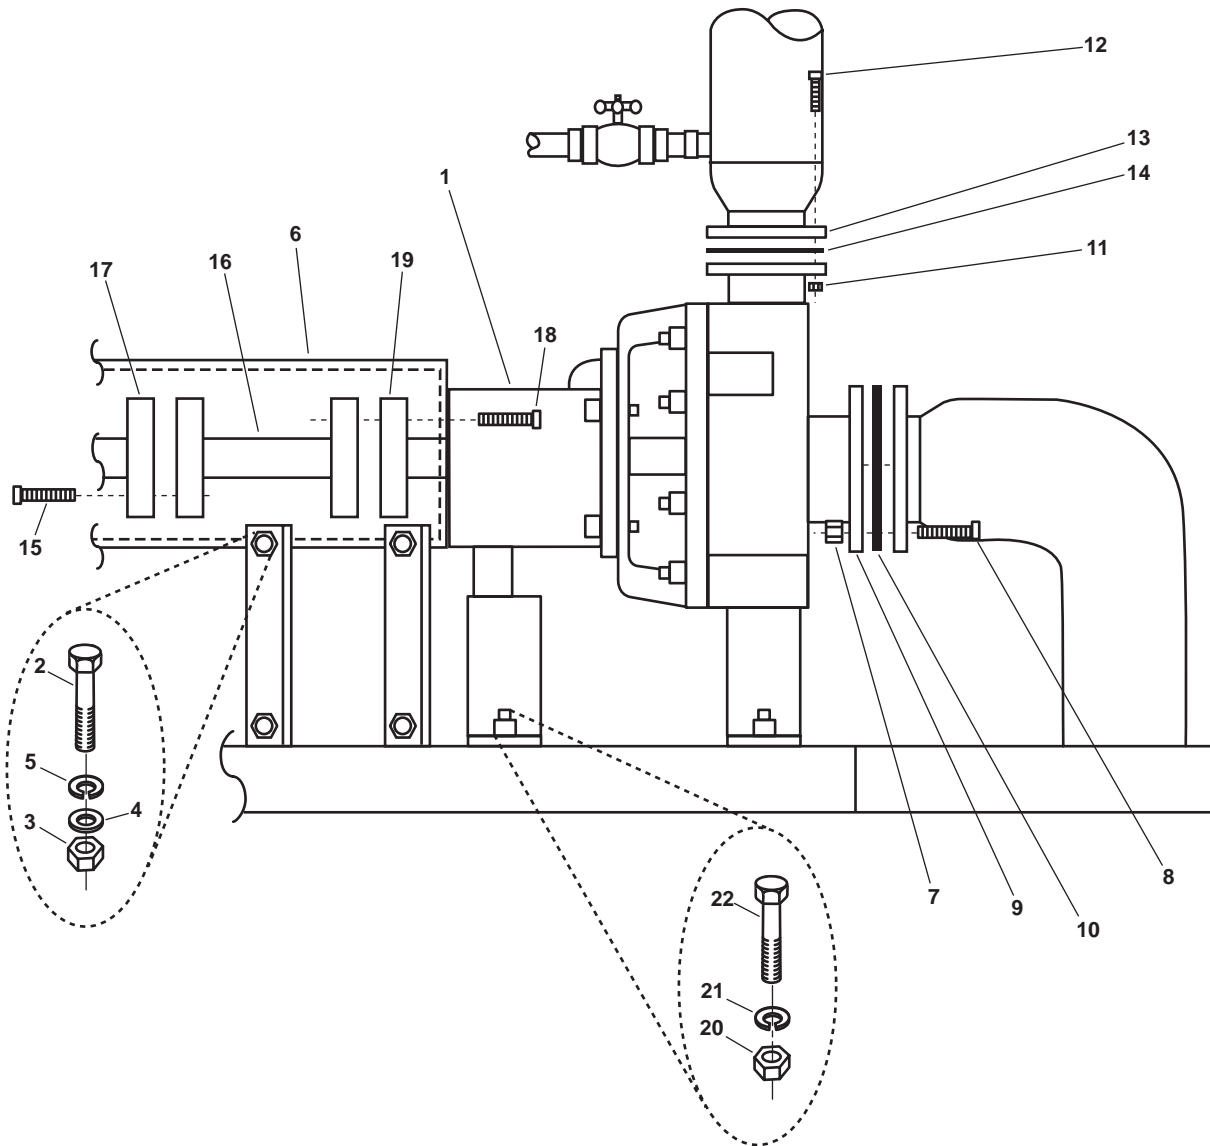

Figure 1. Diesel Engine-Driven Firefighting Pump Removal
1. Place a suitable drain pan under the firefighting pump (figure 1, item 1).
2. Remove the four bolts (figure 1, item 2), four nuts (figure 1, item 3), four flat washers (figure 1, item 4), and four lockwashers (figure 1, item 5) that secure the shaft guard (figure 1, item 6). Remove the shaft guard, and discard the lockwashers.
3. Remove the eight nuts (figure 1, item 7) and eight bolts (figure 1, item 8) that secure the inlet flange (figure 1, item 9).
4. Remove and discard the gasket (figure 1, item 10).
5. Remove the eight nuts (figure 1, item 11) and eight bolts (figure 1, item 12) that secure the discharge flange (figure 1, item 13).
6. Remove and discard the gasket (figure 1, item 14).
7. Remove the 12 bolts (figure 1, item 15) that secure the pump drive shaft (figure 1, item 16) to the Power Take-Off (PTO) output flange (figure 1, item 17).
8. Remove the 12 bolts (figure 1, item 18) that secure the pump drive shaft (figure 1, item 16) to the pump drive flange (figure 1, item 19). Remove and set aside the pump drive shaft.
9. Remove the four nuts (figure 1, item 20), four lockwashers (figure 1, item 21), and four bolts (figure 1, item 22) that secure the firefighting pump (figure 1, item 1) to its foundation. Discard the lockwashers.
10. Remove the firefighting pump (figure 1, item 1) from its foundation with the endless sling and chain hoist.
1. Using the endless sling and chain hoist, lower the firefighting pump (figure 1, item 1) on its foundation and secure it using the four nuts (figure 1, item 20), four new lockwashers (figure 1, item 21), and four bolts (figure 1, item 22).
2. Perform the Diesel Engine-Driven Firefighting Pump Alignment procedure (WP 0034 00) for installation and alignment of the pump drive shaft (figure 1, item 16).
3. Fabricate a new gasket (figure 1, item 14) for the discharge flange (figure 1, item 13) using the discharge flange as a template. Install the new gasket in the discharge flange.
4. Install the eight nuts (figure 1, item 11) and eight bolts (figure 1, item 12) that secure the discharge flange (figure 1, item 13).
5. Fabricate a new gasket (figure 1, item 1) for the inlet flange (figure 1, item 9) using the inlet flange as a template. Install the new gasket in the inlet flange.